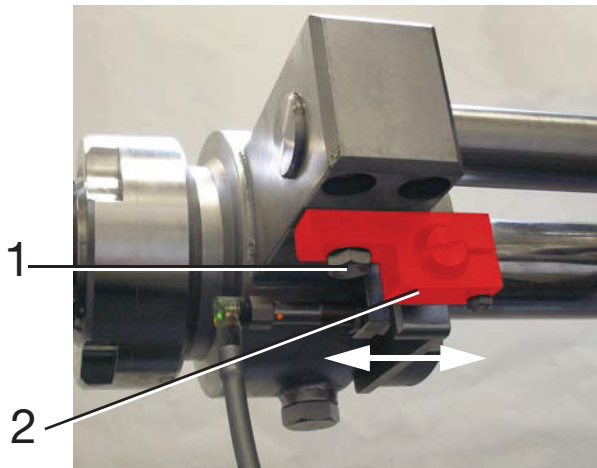

Fig. 3-5 View from below
- Loosen the fixing screw (1, Fig. 3-5).
- Push the stop (2) towards or away from the machine to fine-centre the stuffing horn
- Re-tighten the fixing screw (1).